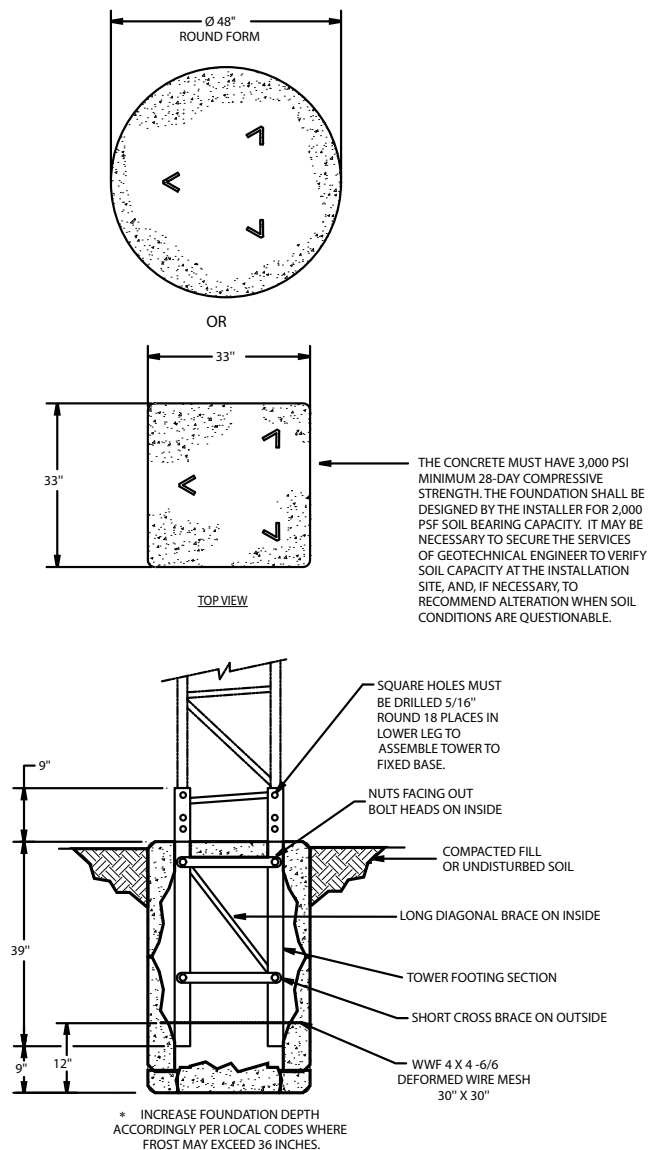

Figure 1
(See **Figure 1**). Locate and orient the tower considering the fold-over position. When in the fold-over position, the tower extends approximately 25 feet horizontally from the center of the tower footing. Make certain the proposed fold over area is clear of any equipment, power lines, buildings, trees, etc. within 25 feet of tower footing. Also provide clearance for the mast pipe protruding approximately 6 feet from the center of the footing opposite the tower when the tower is in the fold over position. Maintain at least one-and-a-half to twice the height of the tower from all power lines. Once the tower foundation/footing is in place, the tower can be mounted in any of three positions, 120 degrees apart.
- 1 Bolt three legs of the tower footing section together (see notes in **Figure 1**) and slip the bottom tower section into the tower footing section.